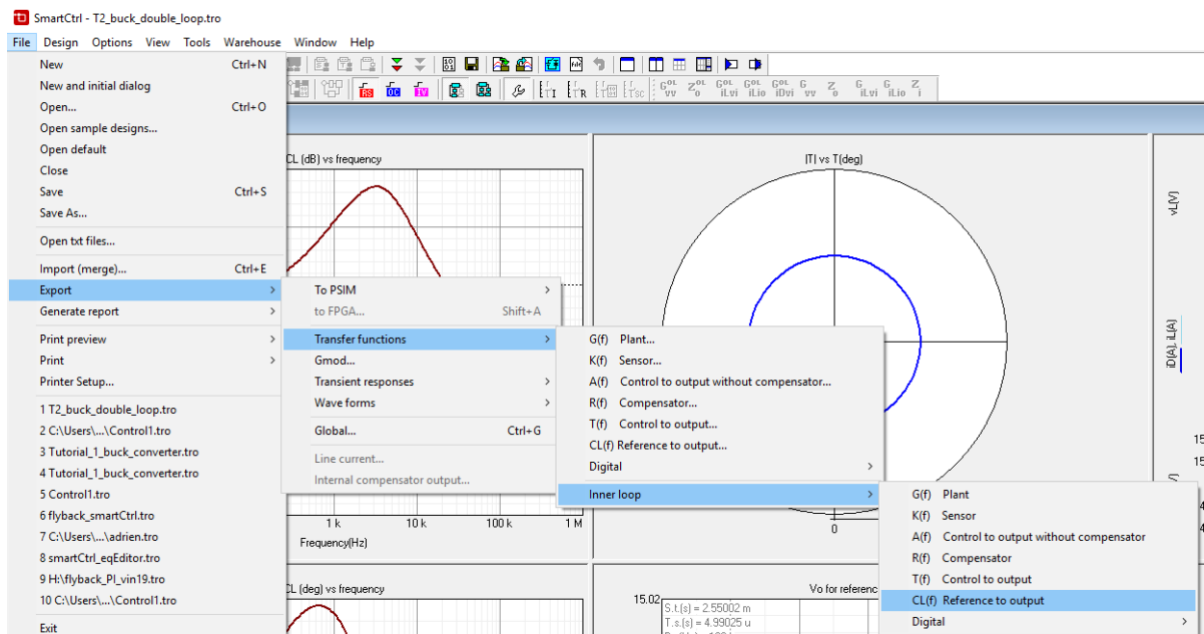
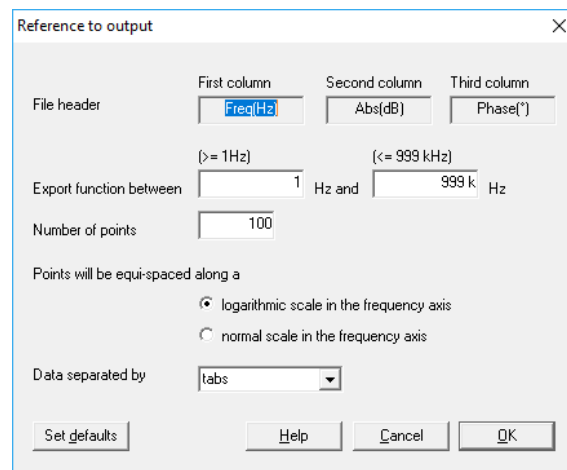

Figure 29: Exporting inner current close loop transfer function plotted
Figure 30: Transfer function exporting options
- Use the menu **File -> Transfer function -> inner loop -> CL(f) Reference to output**. See Figure 29. And configure the outputs according Figure 30.